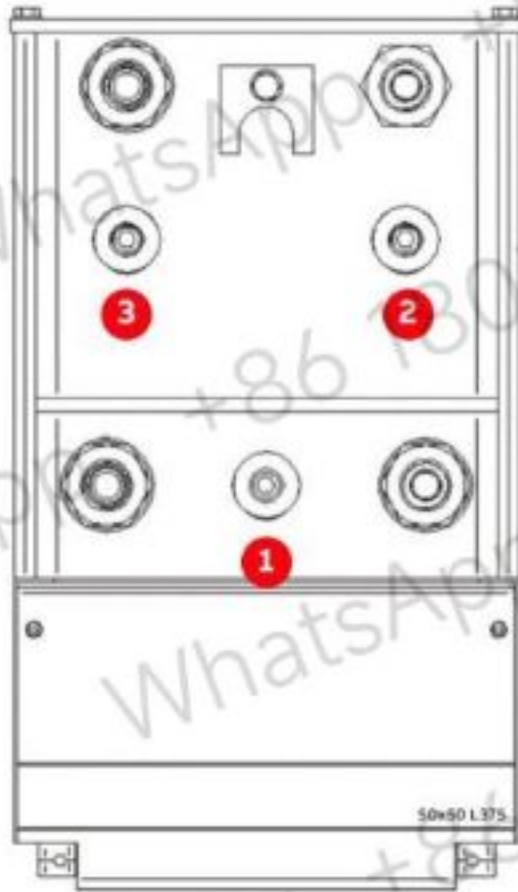

Figure 10–30 Order of tightening the clamping screws
1. Tighten all three stacks in the order given in Fig. 10–30 by tightening the clamping screw (see Fig. 10–31).